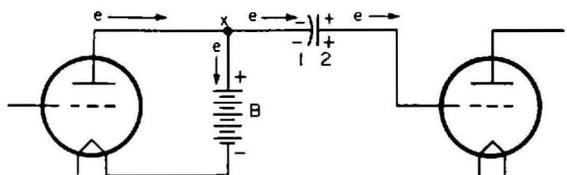

Fig. 17-9. Diagram showing how a fixed capacitor is used to couple the amplifier tube to the detector.
**A Different Coupling Method.** There is another method used to couple one tube with another. A fixed capacitor is inserted between the plate of the detector tube and the grid of the amplifier tube (Fig. 17-9).